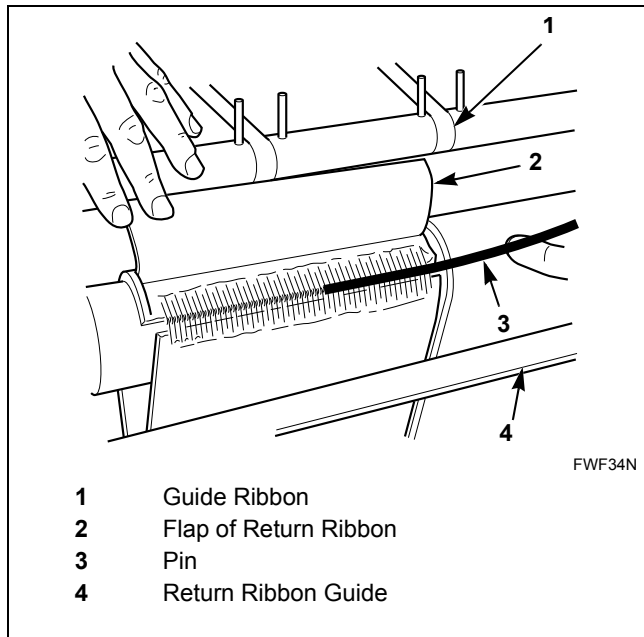

Figure 35
6. Remove pin from teeth of return ribbon. Refer to *Figure 35*.